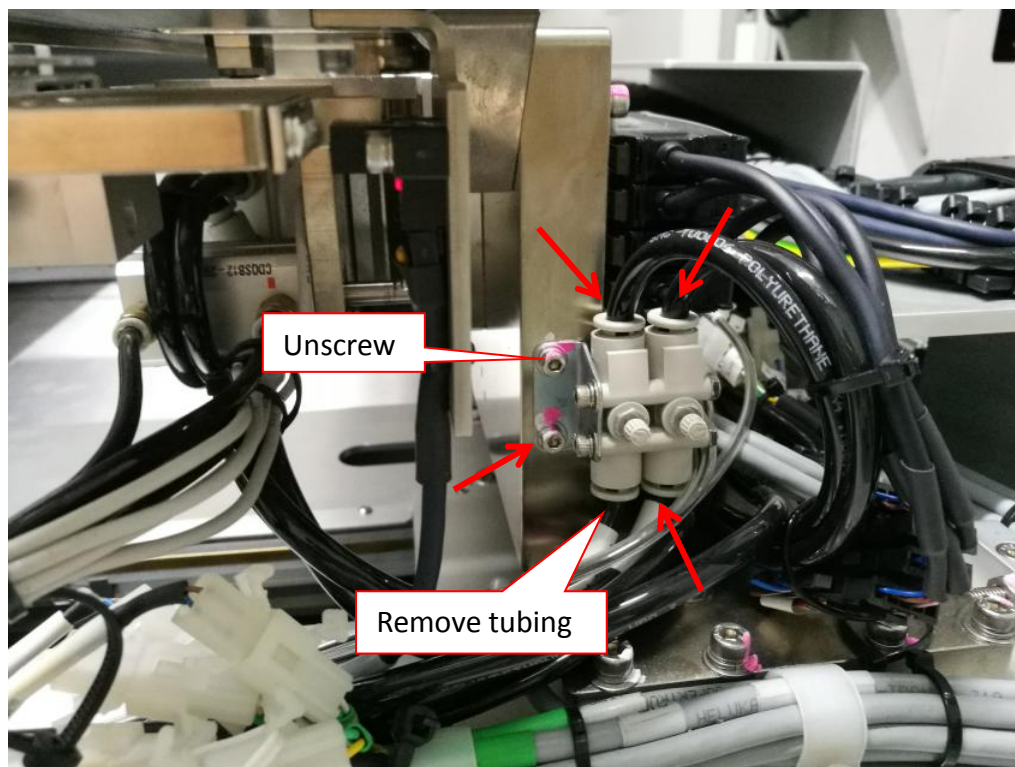

Figure 7 Tubing Removal
15. Perform Marking at Tubing. Remove x 2 screws & 4 x Tubing as shown in Figure 7